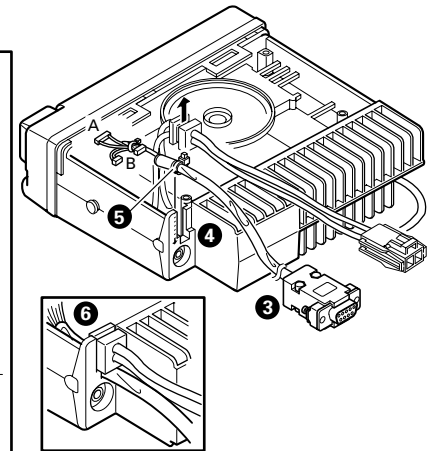

Fig. 9
5. Insert the KCT-31 cable ( ❸ ) into the chassis ( ❹ ). The write retaining band ( ❺ ) must be inside the chassis.
6. Replace the DC cable bushing ( ❻ ).
7. Connect the KCT-31 to the TX-RX unit (A/2) as shown in Figure 9 ( ❼ ).
❼ When the COM1 is used.